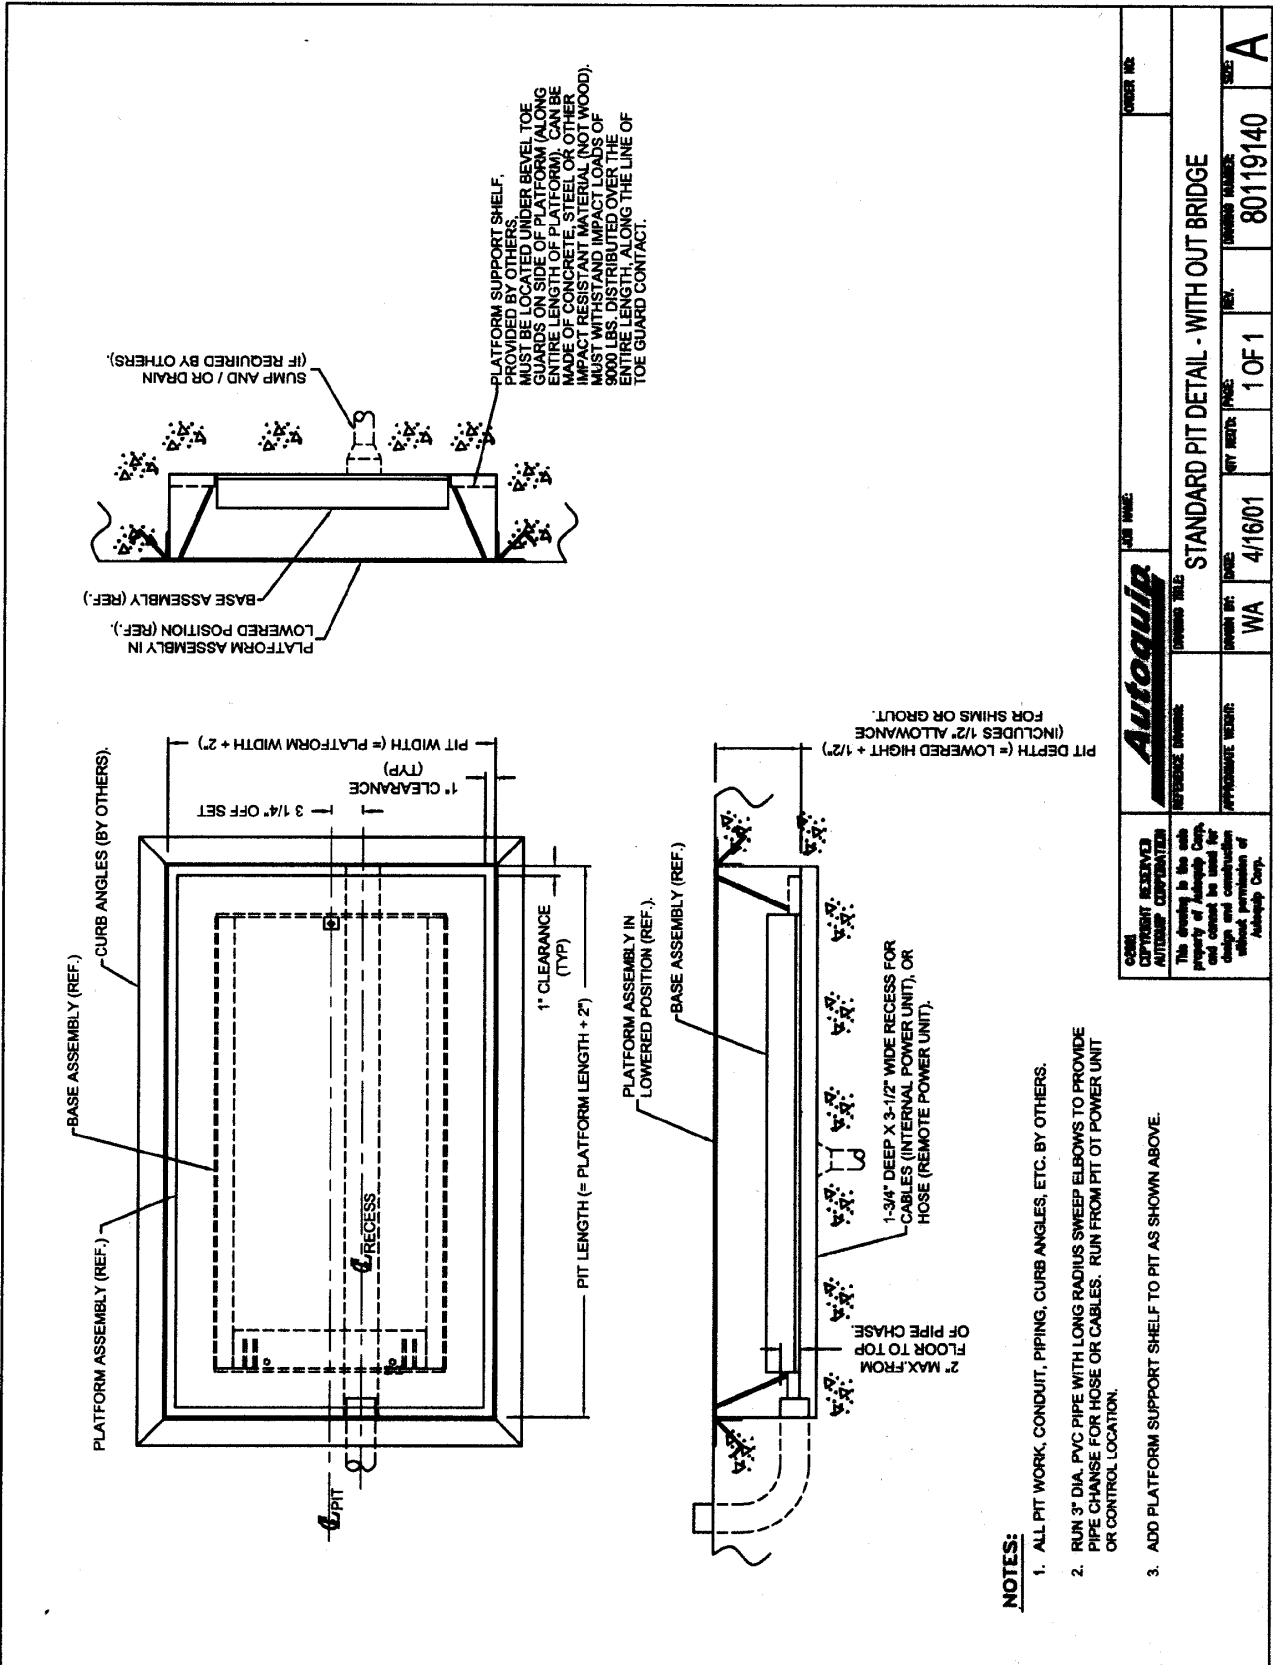

Figure 13 Generic Pit Drawing
A. PIT MOUNTING (Reference Fig.13)
1. The platform top should be solid and flush with the pit curb angles. The pit depth includes $\frac{1}{2}$ " added to the lowered height of the lift for leveling purposes (refer to **Figure 13**).